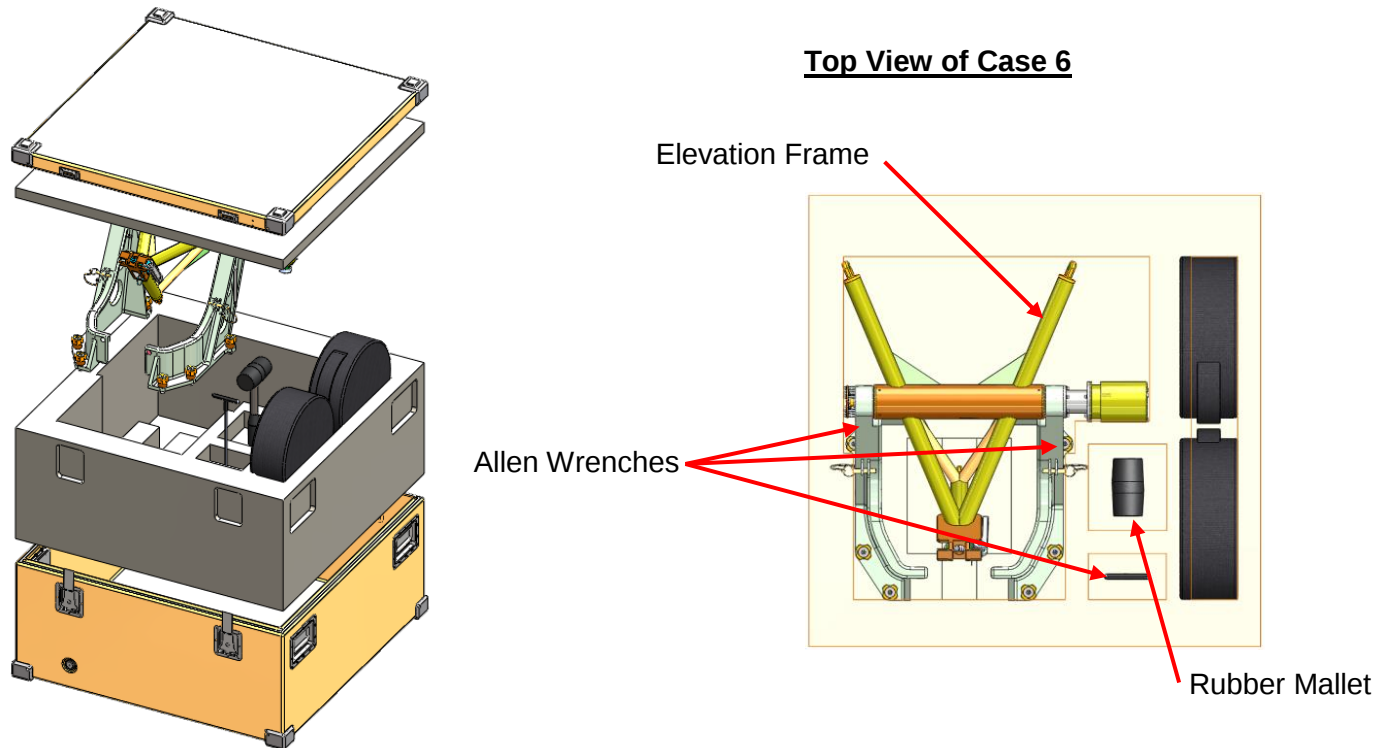

Figure 52. Case No. 6 Pack-Up
39. Place Allen wrenches back in storage position located on the elevation frame and in Case 6 as shown in Figure 52.
40. Remove elevation frame from the azimuth positioner and place in Case 6 as shown in Figure 52.